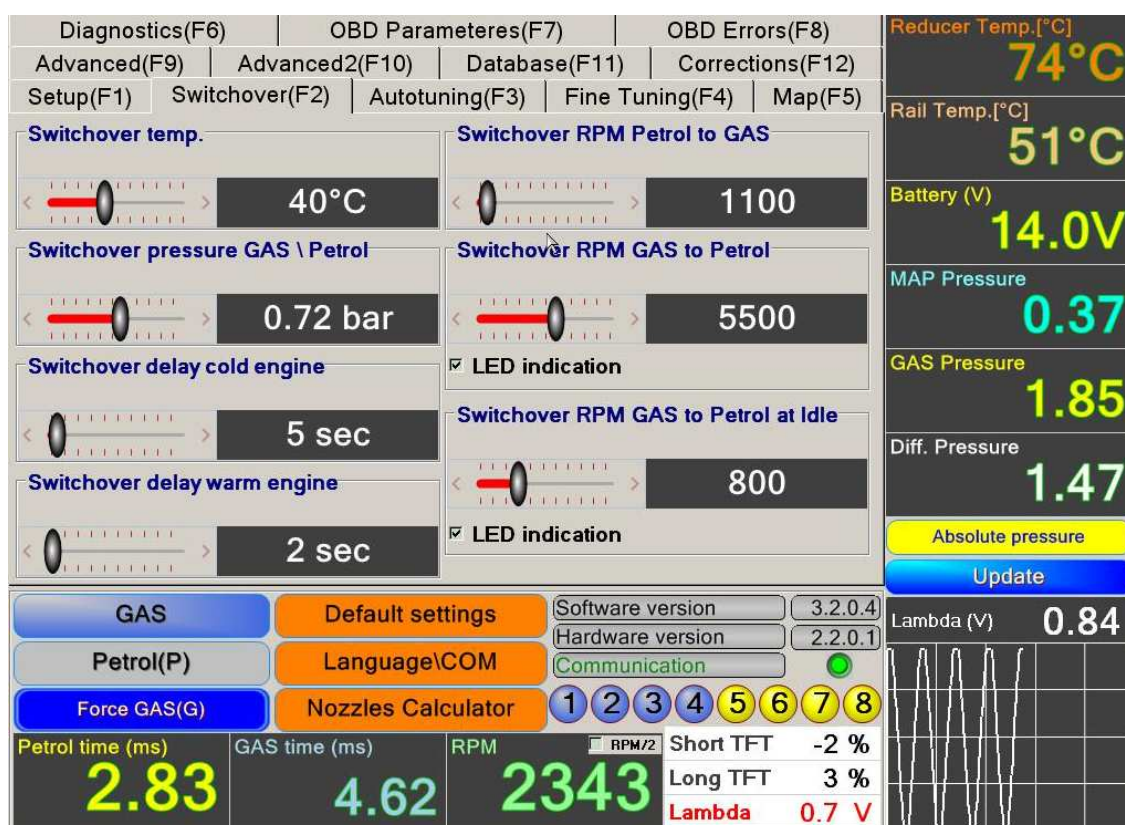

FIG.4
8. Menu “SWITCHOVER” (F2) (FIG.4)